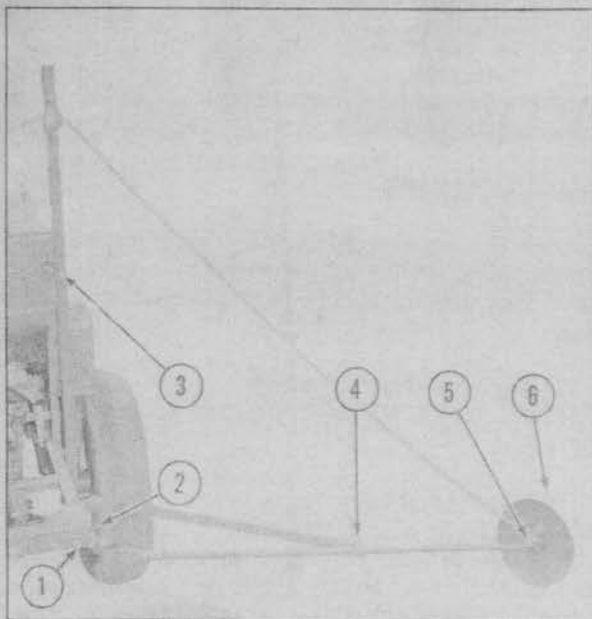

Fig. 19 - Disc Markers
To install the markers, refer to Fig. 19, and proceed as follows:
1. Install the angular bracket No. 1, Fig. 19, to the drill frame.
2. Attach the marker support No. 2, to the bracket and the drill frame as shown in Fig. 19.
3. Bolt the upright support No. 3, Fig. 19, to the drill frame and the grain box.
Adjust angle of disc with bolt No. 5, Fig. 19, so that the disc is angled outward sufficiently to cut a furrow in the soil.
Adjust length of markers by loosening clamp No. 4, Fig. 19, for size of drill as follows:
Lubricate fitting No. 6, Fig. 19, once every four or five hours with a good grade of gun grease.
Tie the rope to the hook as shown in Fig. 19, and put the rope through upper left and right side pulleys.